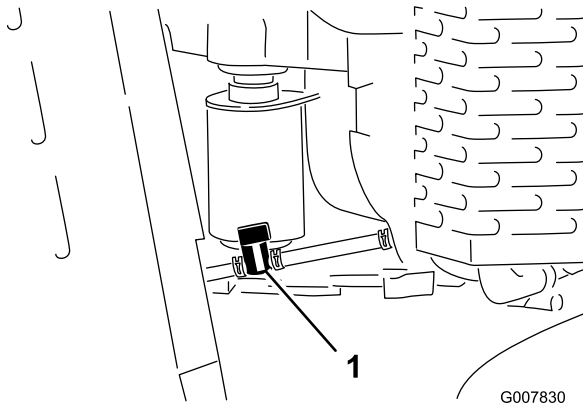

Figure 37
4. Turn the fuel shut-off valve to the closed position (Figure 37).
5. Squeeze the ends of the hose clamp on the engine side of the shut-off valve together and slide it up the fuel line away from valve (Figure 37).
6. Pull the fuel line off the valve (Figure 37). Open the fuel shut-off valve and allow the gasoline to drain into a gas can or drain pan.
3. Turn the fuel shut-off valve to the closed position (Figure 37).
7. Turn the fuel shut-off valve to the open position (Figure 37).